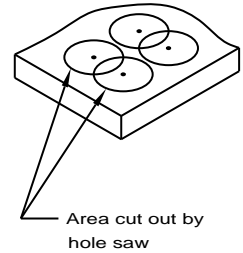

Figure 2
2. Remove the template and cut two 2-1/4" holes using the pilot holes to align the hole saw (Figure 2).